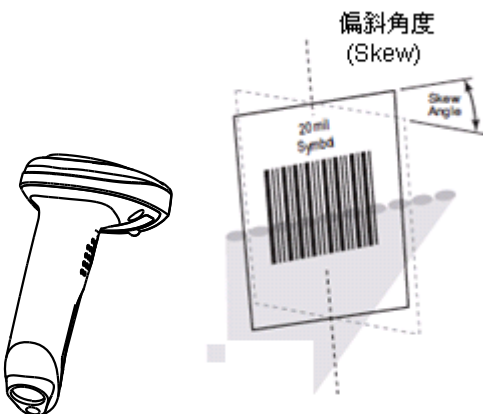

Fig. 1-13
- ✧ Skew: $\pm 60^\circ$, 0° Roll and 0° Pitch (Fig. 1-13)